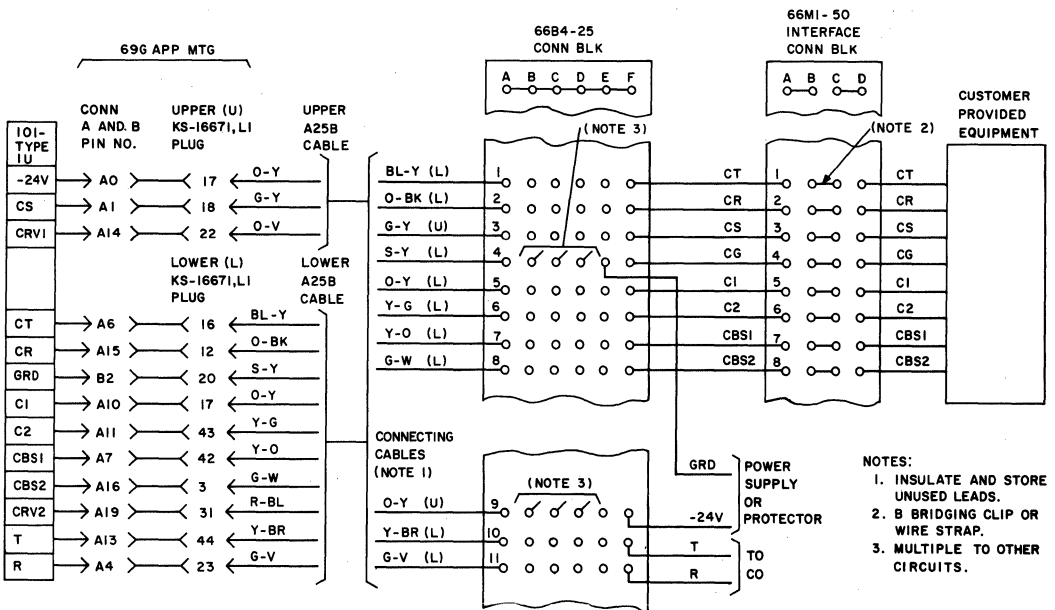

Fig. 10—Connection Diagram—69G Apparatus Mounting With 101-Type IU
- Block, Connecting, 66B4-25 (as required) (Fig. 10 and 11)
3.01 The 69G apparatus mounting should not be used for new installations of PCA CED. Refer to Fig. 10 for connections used in existing installations.
1. SEE TABLES C, D, E, F, OR FIG. 10 FOR PIN OR TERMINAL NOS.
- (W) FOR USE WITH SXS CO
- (X) WITHOUT RERING
- (Y) WITH RERING
- (Z) CO LOOP EXCEEDS 500 OHMS